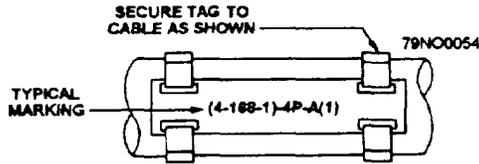

Figure 2-7.—Cable tag.
Where two cables of the same power or lighting circuit are connected in a distribution panel or terminal box, the circuit classification is not changed. However, the cable markings have a suffix number (in parentheses) indicating the cable section. For example, (4-168-1)4P-A(1) (fig. 2-7) identifies a 450 volt power cable supplied from a distribution panel on the fourth deck at frame 168 starboard. The letter A indicates that this is the first cable from the panel, and the (1) indicates that it is the first section of a power main with more than one section.